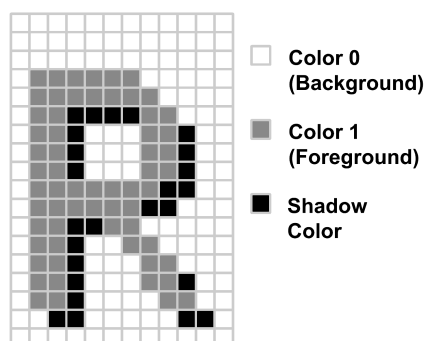

Figure 20. Shadowing
3. **Shadowing**—Shadowing can be added to two-color characters by choosing the appropriate attribute value for the character. When a character is shadowed, a shadow pixel is added to the lower right edges of the color 1 image, as shown in Figure 20. The color of the shadow is determined by the value in the color palette register EF3, which is normally set to black.